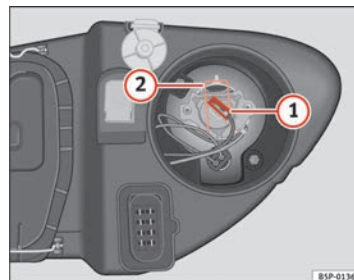

Fig. 191 Main beam headlights
- Remove the connector ⇒ fig. 191 ① from the bulb.
- Press the spring ⇒ fig. 191 ② inwards and to the right.